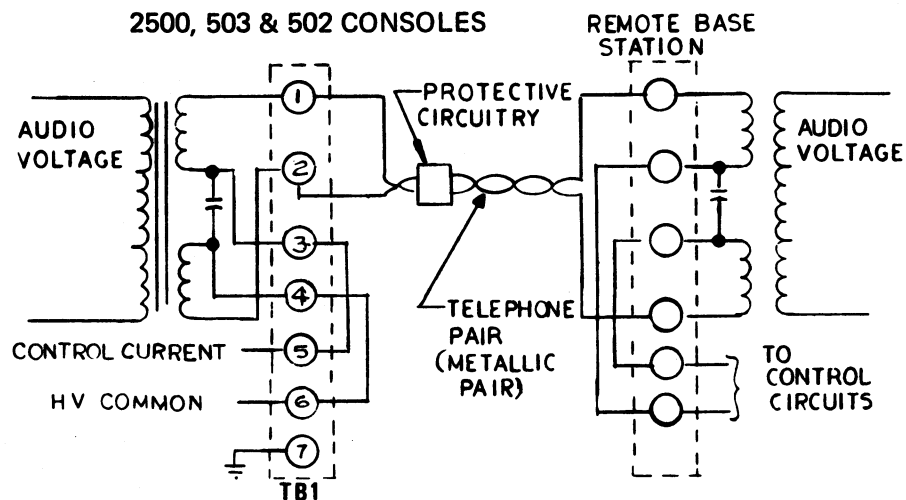

Figure 4A
- Method 1: (For single telephone pair, control voltage simplex line to line. See Figure 4A.)